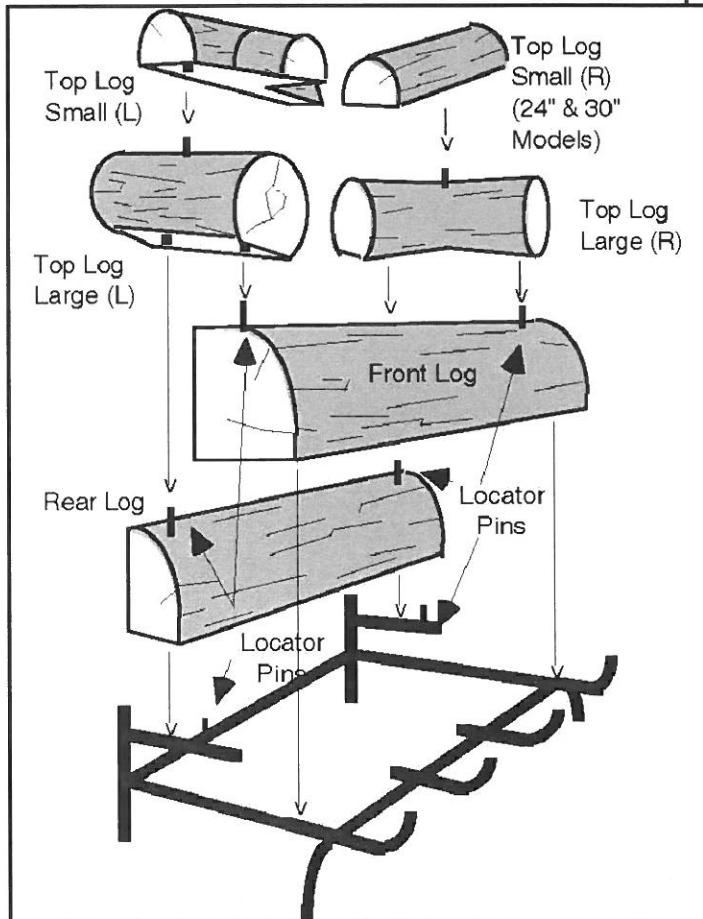

Figure 7
1. Place the largest log (FRONT LOG) on the front of the grate and the second largest log (REAR LOG) on the rear of the grate behind the LOCATOR PINS. **Fig. 7 and 8.**
3. inserted into the drilled holes located on the bottom of both LARGE TOP LOGs. **Figures 7 and 8.**
3. Place R and L SMALL TOP LOGs across the FRONT LOG and LARGE TOP LOGs with the LOCATOR PINS inserted into the drilled holes. **Figures 7 and 8.**